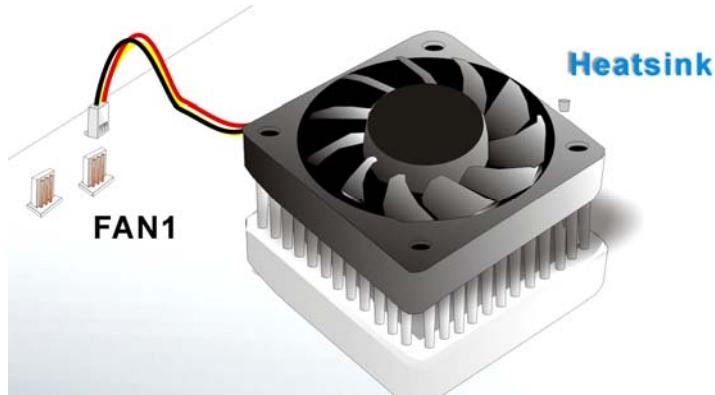

Figure 5-5: Connect the cooling fan cable
Step 12: Connect the fan cable. Connect the cooling kit fan cable to the fan connector on the motherboard. Carefully route the cable and avoid heat generating chips and fan blades. See **Figure 5-5**.